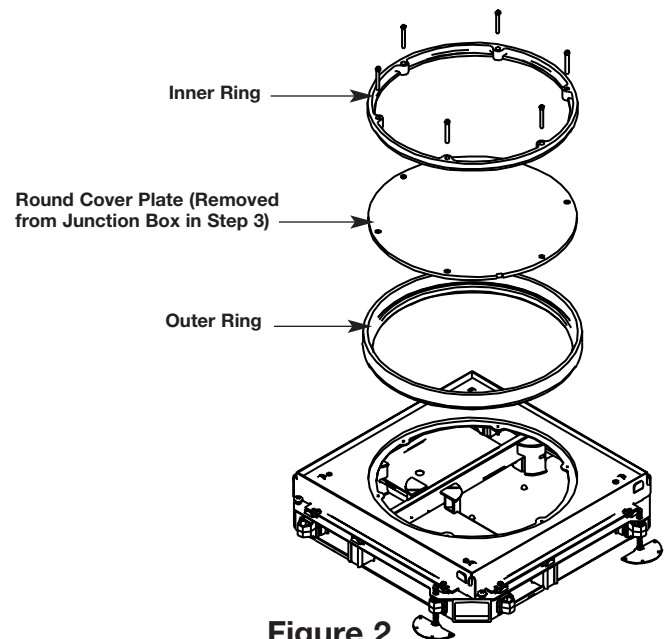

Figure 2
4. Set the outer brass ring into the opening in the junction box cover (see Figure 2).